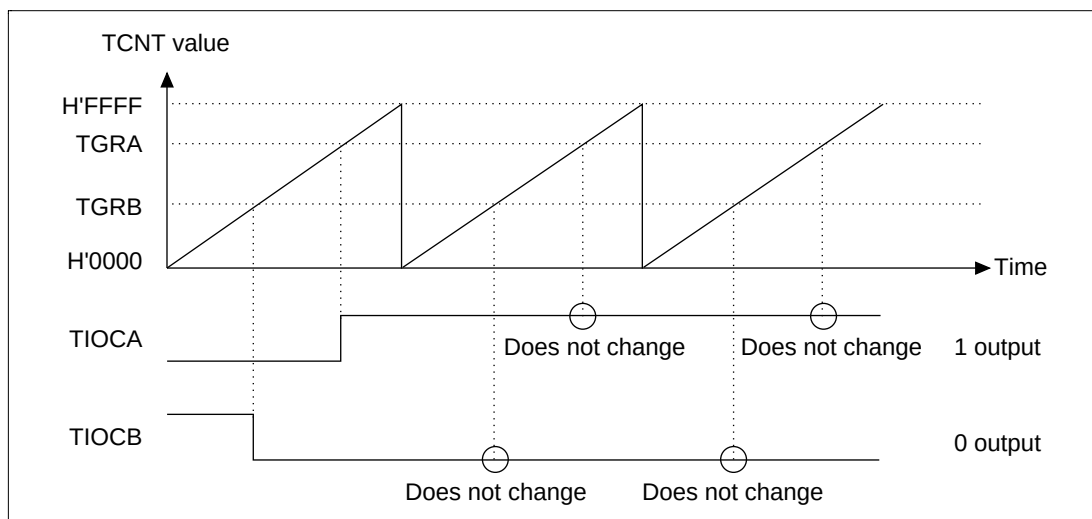

**Figure 12.11 Example of 0 Output/1 Output**
**Waveform Output Operation (0 Output/1 Output):** Figure 12.11 shows 0 output/1 output. In the example, TCNT is a free-running counter, 1 is output upon compare-match A and 0 is output upon compare-match B. When the pin level matches the set level, the pin level does not change.